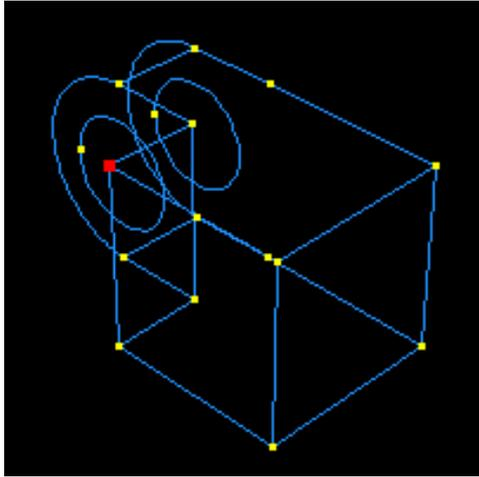

Figure C-36 Monitor a degree of freedom on the solid hinge piece.
- Select the vertex of the solid hinge piece shown in Figure C-36.